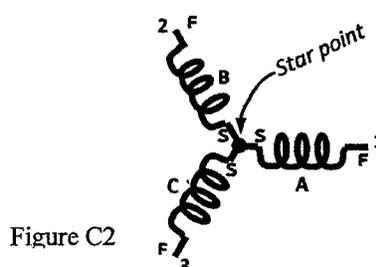

Figure C2
2. A 3 phase *Star* connected alternator coils (A, B, C) are represented in Figure C2. "S" and "F" on the coils denote the "start" and "finish" ends of the coils. The phase voltage of each coil is 240 V.